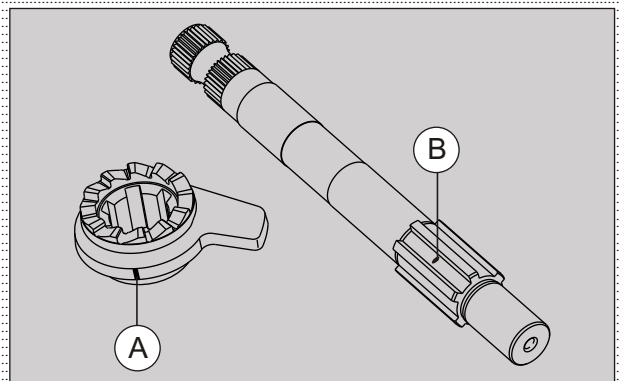

Fig. 3.175
While reassembling starter kick, match the mark (A) on the starter kick with the punch mark (B) on shaft kick starter. (Fig. 3.175)